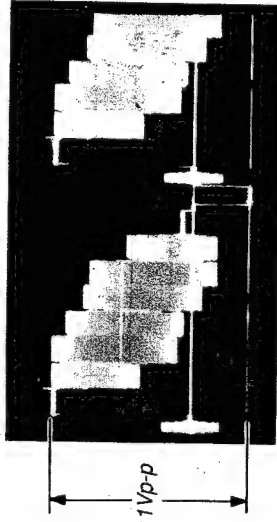

Fig. 3-1
3. Adjust to 1.0 Vp-p with RV101 of BA board as shown in Fig. 3-1.
5. Adjust to 1.0 Vp-p with RV3 of BG board as shown in Fig. 3-1.